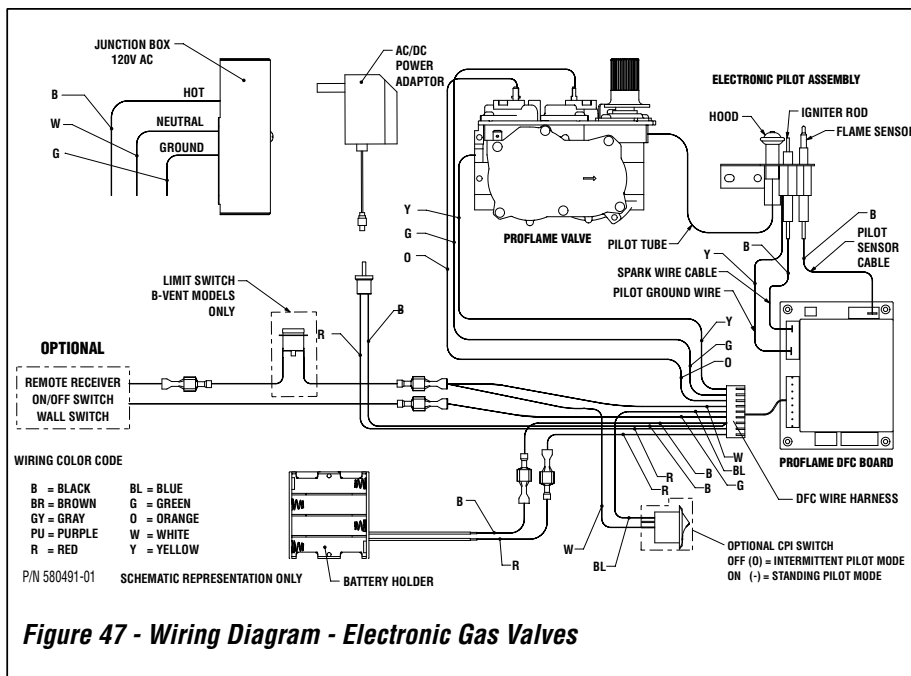

Figure 47 - Wiring Diagram - Electronic Gas Valves
Ground supply lead must be connected to the wire attached to the green ground screw located on the outlet box. See Figure 47. Failure to do so will result in a potential safety hazard. The appliance must be electrically grounded in accordance with local codes or, in the absence of local codes, the National Electrical Code, ANSI/NFPA 70-latest edition. (In Canada, the current CSA C22.1 Canadian Electrical Code).
B. Electronic Wiring (Figure 47)
4. See Figure 47. Connect the black power supply wire to the lower outlet's red pigtail lead.
7. If an optional control is to be used, wire it in the low voltage circuit as shown in **Figure 47**.
(See **Figure 47** on **Page 24**) -
(See **Figure 47** on **Page 26**)